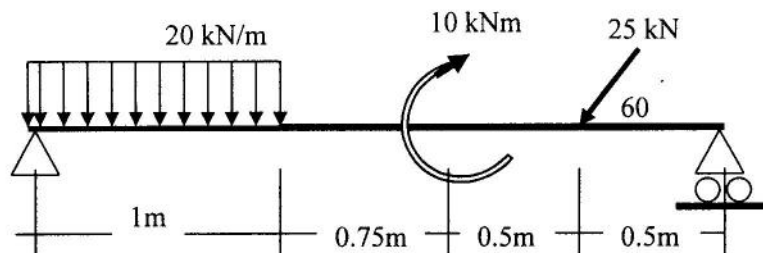

Fig. 1
15. Sketch the SFD and BMD for the overhanging simply supported beam loaded as shown in figure 1. Also find the point of contra flexure.